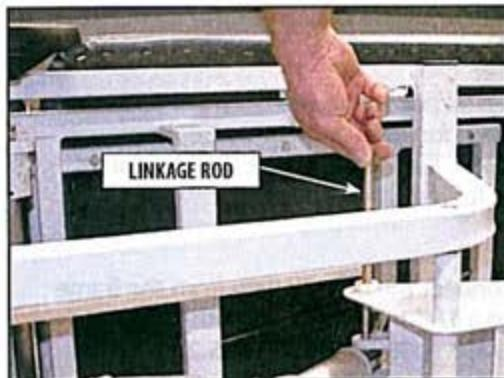

FIGURE 5.27
9. Tapping up from the bottom, remove the Linkage Rod, going through the brackets and the Actuator. Refer to Figure 5.27.